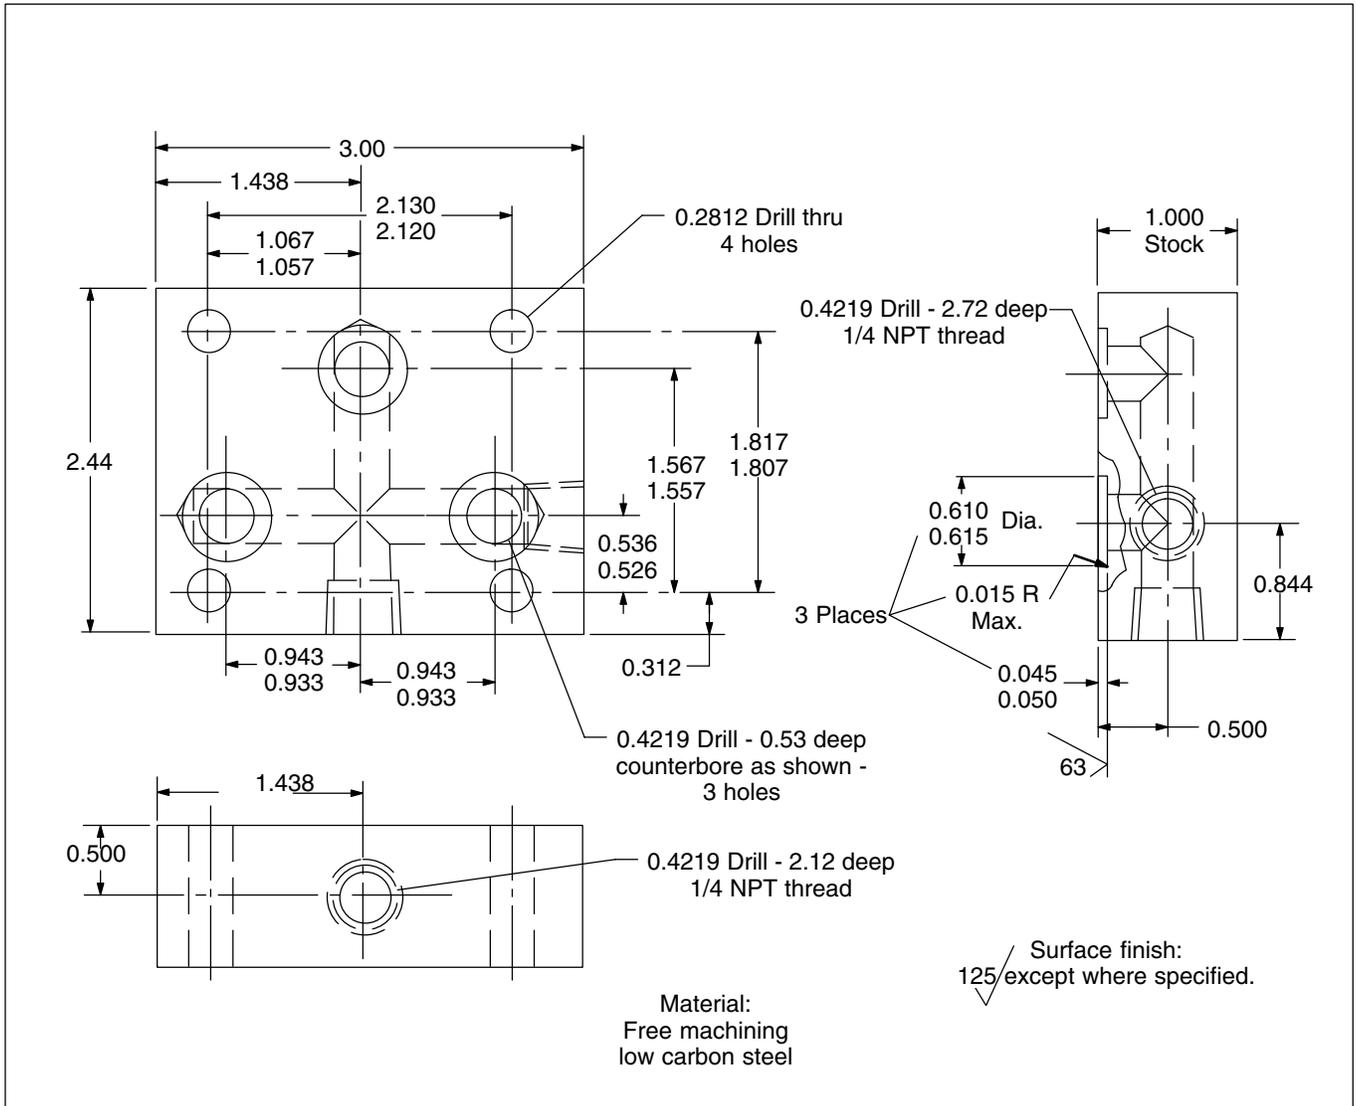

Figure 6. Flushing Plate
2. Flushing plate. Refer to figure 6 for dimensions.
Flush the system through 10 micron full flow filters prior to installing the servo valve. A flushing plate can be manufactured. (See Figure 6.) The plate passes the fluid directly to the tank port. Continue flushing until new filters show no sign of contamination. It may be necessary to change the system fluid. If so, filter the new fluid as it is poured into the reservoir and then flush the system as described above. After the system is flushed, remove the flushing plate and install the servo valve. Torque the mounting screws to a maximum of 112 lb.in.